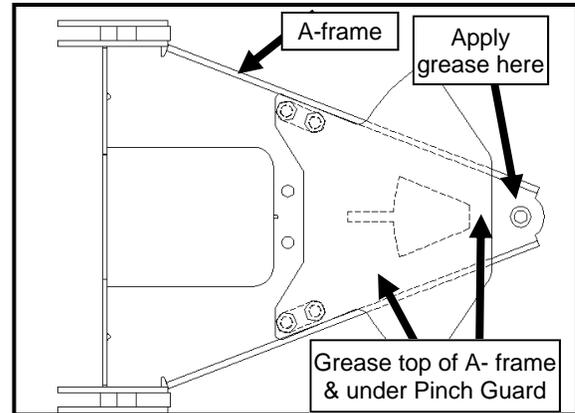

Fig. 3.1—A-Frame and Hardware
3.1 Per fig 3.1, locate the A-frame, one 1/2-20 x 3.5" hex head bolt, one 1/2-20 conical locking hex nut, and one 1/2" washer. Apply all-season grease to the top and bottom surface of the A-frame around and in the 1/2" bolt hole. Grease should extend about an inch away from the center of the hole.